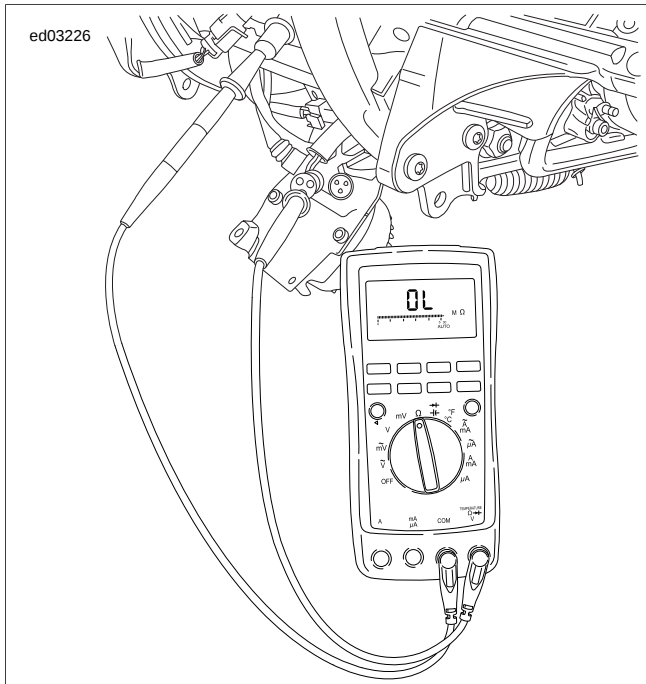

Figure 3-13. Test for Grounded Stator (Typical)
- See Figure 3-13. Connect an ohmmeter.